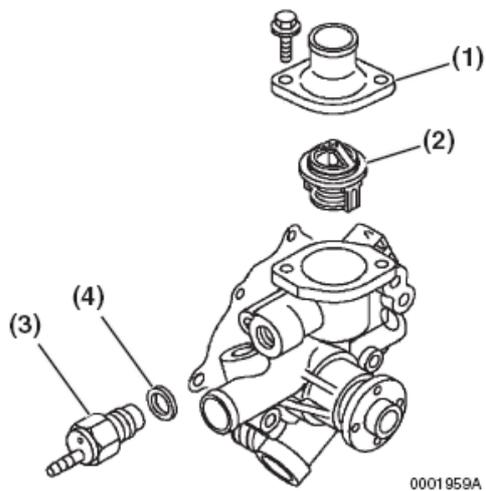

Figure 8-7
7. Remova a tampa do termostato (Figure 8-7, (1)).